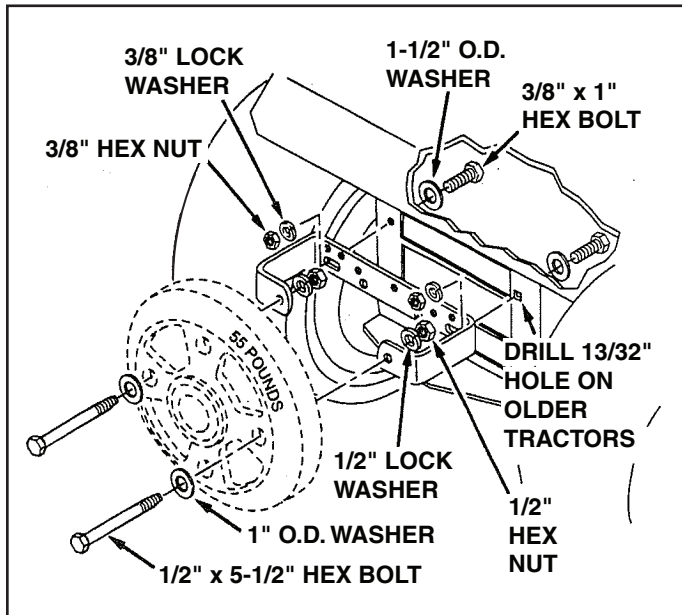

FIGURE 1
1. Assemble two 1.5" O.D. washers (7) onto two 3/8-16 x 1" hex bolts (3). Insert bolts through drawbar and assemble weight bracket (1) onto bolts. Fasten securely with two 3/8" lock washers (9) and two 3/8-16 hex nuts (11). See figure 1.
2. Assemble wheel weight to weight bracket (1) using two 1/2" x 5-1/2" hex bolts (14), 1" O.D. washers (5), 1/2" lock washers (8) and 1/2-13 hex nuts (10). Tighten securely. See figure 1.